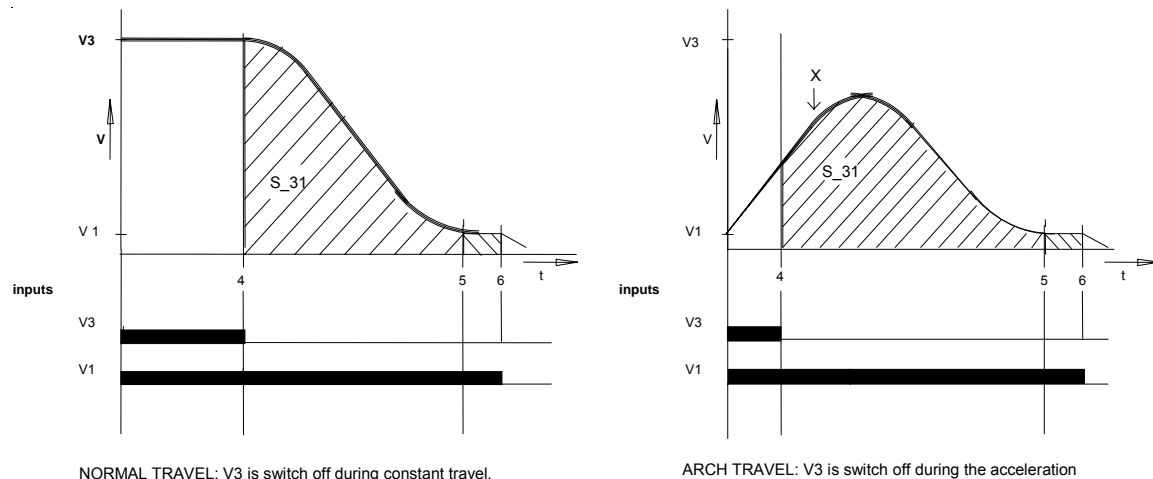

Figure 3.8 Comparison normal travel and arch travel
**The controller ensures a constant crawling distance and the shortest possible backlash time (see comparison in Fig 3.8) independently of the speed achieved at the decelerating point (4)..**
If the final speed set (Figure 3.8) has not been reached at the decelerating point (4), the drive continues to accelerate.